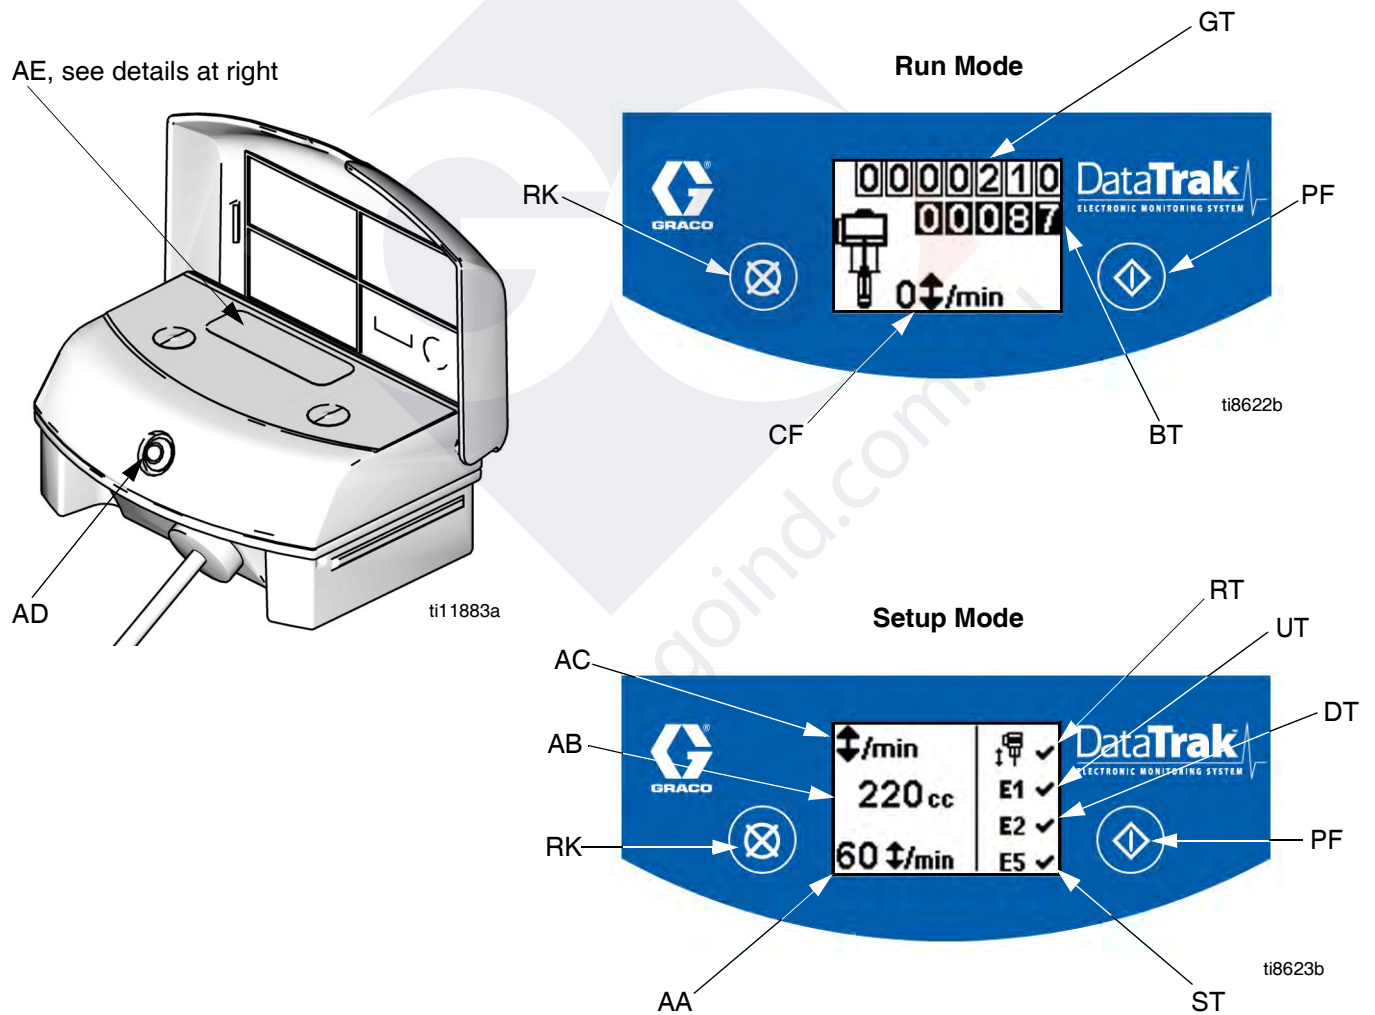

FIG. 8. DataTrak Controls and Indicators
Key for FIG. 8
1. See FIG. 8. Press and hold  for 5 seconds until Setup menu appears.
When runaway, E1, E2, and E5 error options are enabled, a  will appear on the setup screen. See FIG. 8.
1. See FIG. 8. If pump runaway occurs, the runaway solenoid will actuate, stopping the pump. The LED (AD) will flash and the display (AE) will indicate a runaway condition (see Table 1:). The display will cycle through six instruction screens.
2. Runaway Screens 1 and 2: To reset the runaway solenoid, close the master air valve (E). Wait for air to completely bleed off the air motor.
3. Runaway Screens 3 and 4: After the air is bled off, push the solenoid release button (J) down to reset the air valve. The button will pop back up when the air valve is repressurized.
5. Open master air valve (E) to restart pump.
To disable runaway monitoring, go to setup mode and set runaway value to 0 (zero) or toggle (RT) off  (see FIG. 8).
1. See FIG. 8. To enter Prime/Flush mode, press any key to wake up the display, then press . The Prime/Flush symbol will appear in the display and
See FIG. 8. The last digit of the batch totalizer (BT) represents tenths of gallons or liters. To reset the totalizer, press any key to wake up the display, then press and hold  for 3 seconds.
See FIG. 8. The display (AE) will turn off after 1 minute of inactivity in Run mode or 3 minutes in Setup mode. Press any key to wake up the display.
DataTrak can diagnose several problems with the pump. When the monitor detects a problem, the LED (AD, FIG. 8) will flash and a diagnostic code will appear on the display. See Table 1: